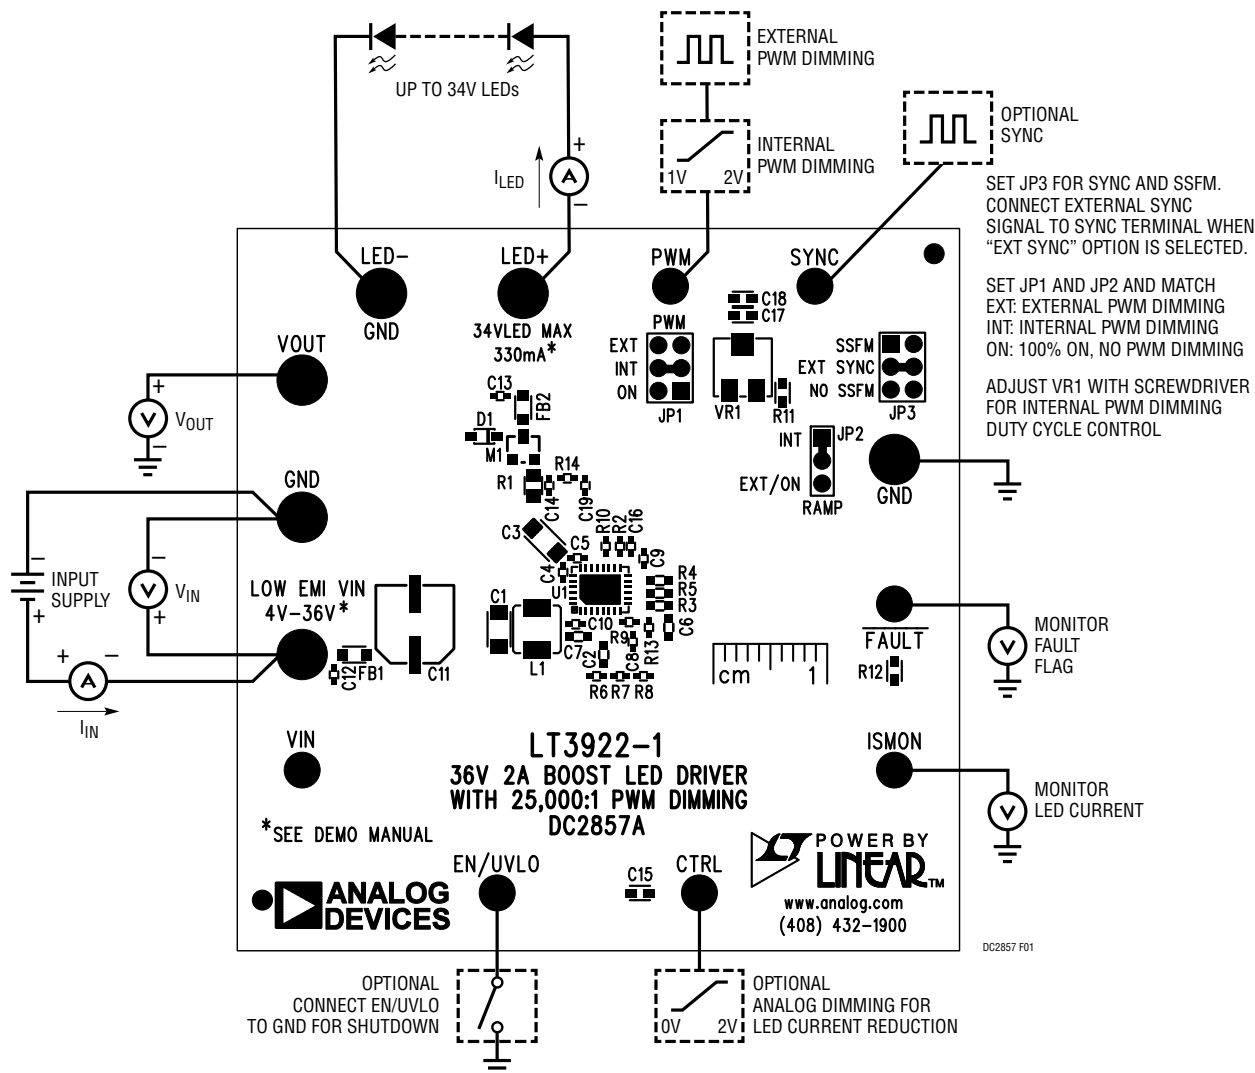

Figure 1. Test Procedure Setup Drawing for DC2857A
1. With power off, connect a string of LEDs that will run with forward voltage less than or equal to 34V (at 330mA) to the LED⁺ and LED⁻ terminals on the PCB as shown in Figure 1.